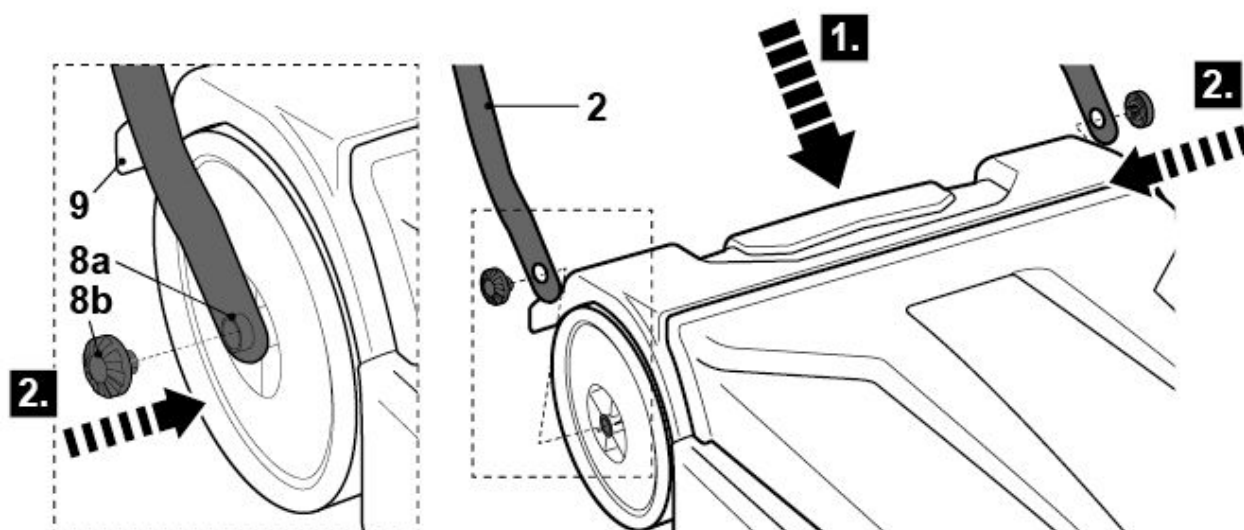

Fig. 2
hook holes on the ends of the bottom bar of the handle axle [2] [8] (figure 2, step 1).
attach the caps (8b) to the axle (8) and push them to the end (figure 2, step 2).